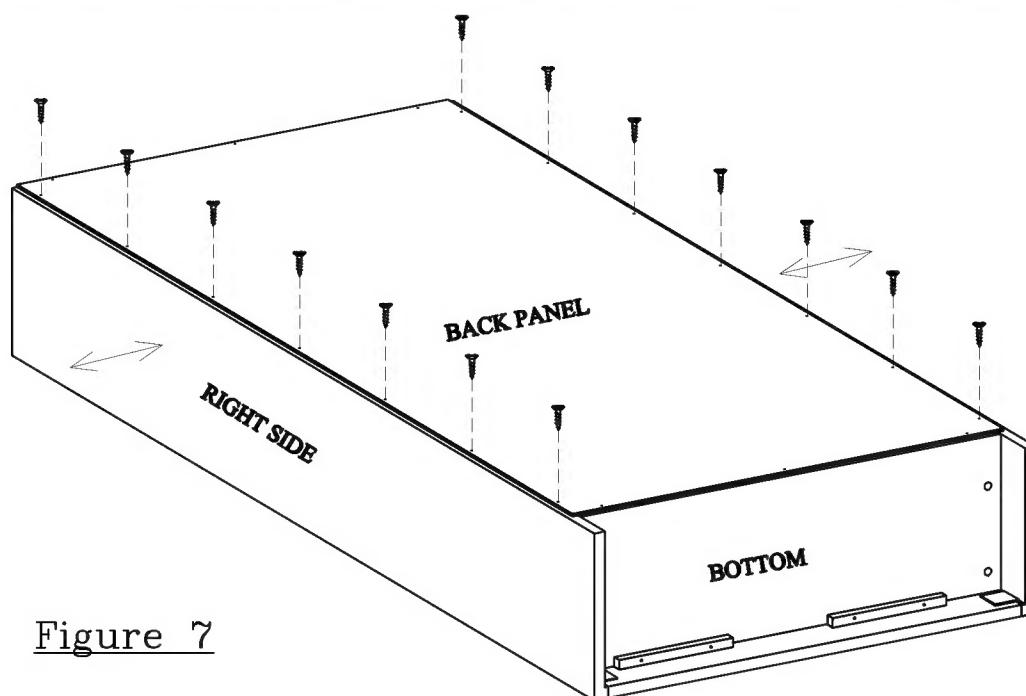

Figure 7
Step 19. The edges of the SIDE PANELS must be parallel with the edges of the BACK PANEL. If necessary, slightly push the SIDE PANELS in or out, in order to ensure an equal amount of space along the edges. See Figure 7.
Step 20. Insert and screw 7 screws along each side edge of the BACK PANEL. See Figure 7.